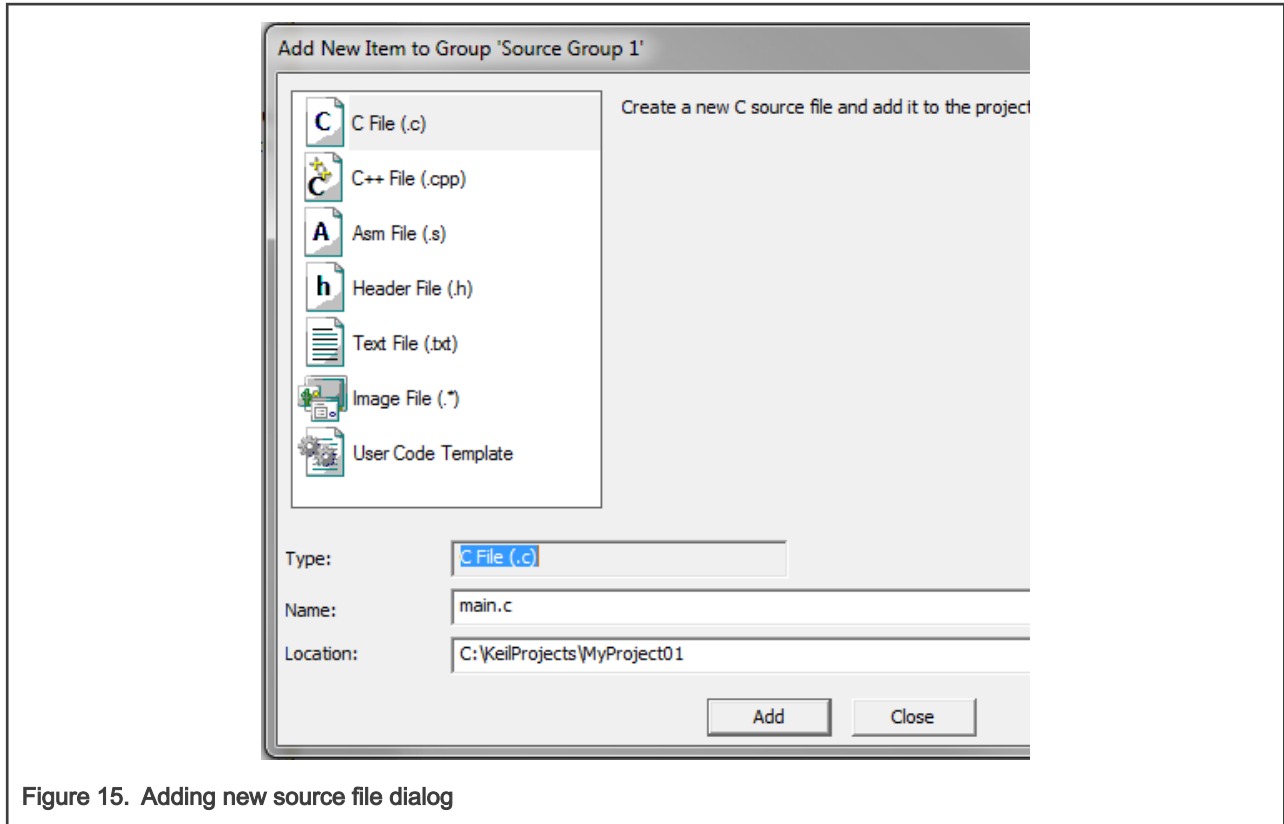

Figure 15. Adding new source file dialog
2. Select the C File (.c) option, and type a name of the file into the Name box, for example '*main.c*'. See Figure 15.